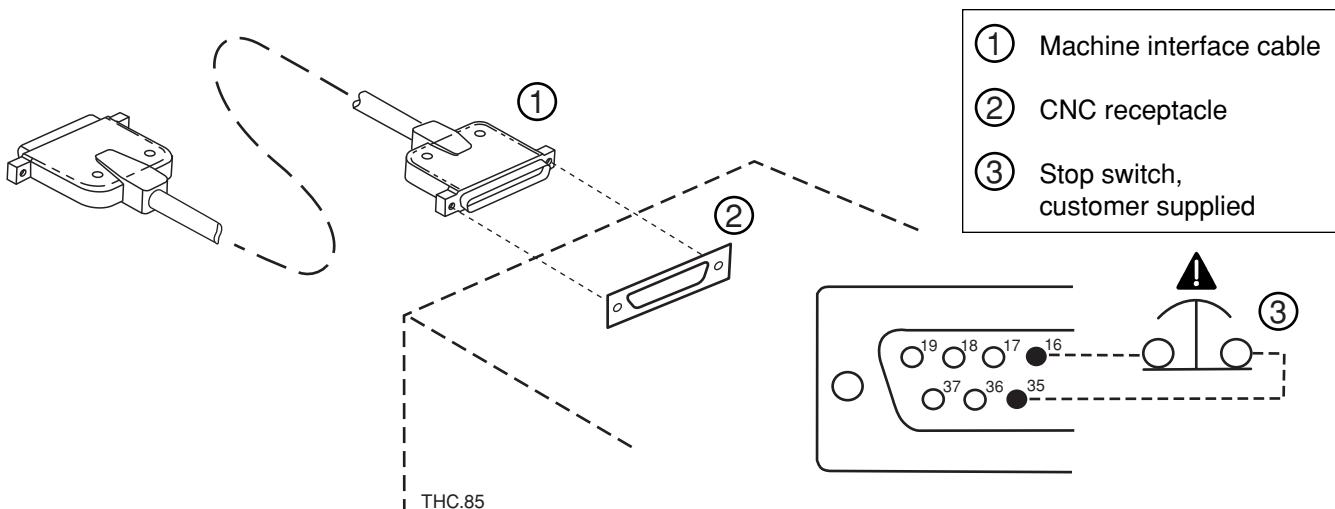

Figure 3-7 CNC emergency stop signal
2. Emergency stop signal - See Figure 3-7.